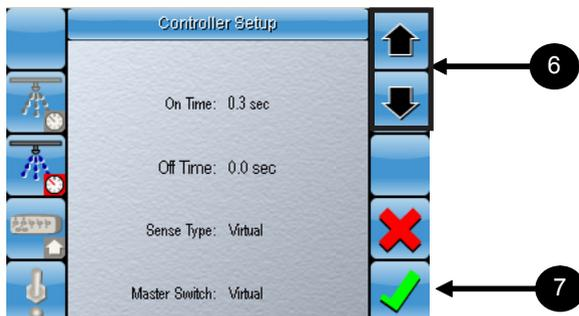

Figure 2-14. Set the Off Time
7. Select  (figure 2-14) to confirm your selection